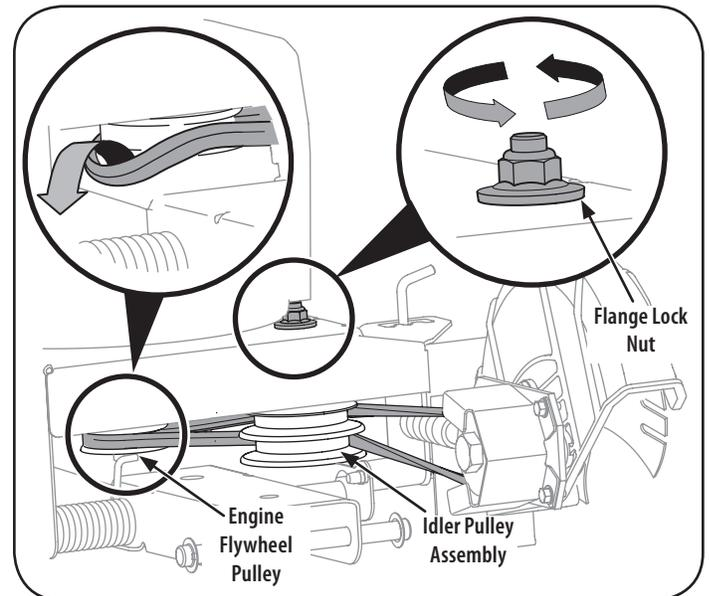

Figure 15
**NOTE:** To aid in reassembly, note the orientation of the drive belt on the two idler pulleys and the engine flywheel pulley prior to performing the following steps. Refer to Figure 15.
1. Working in front of the edger, loosen the flange lock nut on top of frame, allowing the idler pulley assembly to pivot slightly out from the frame. See Figure 15.
2. With your other hand, carefully reach under the rear of the edger and remove the belt from around the engine flywheel pulley. See Figure 15.